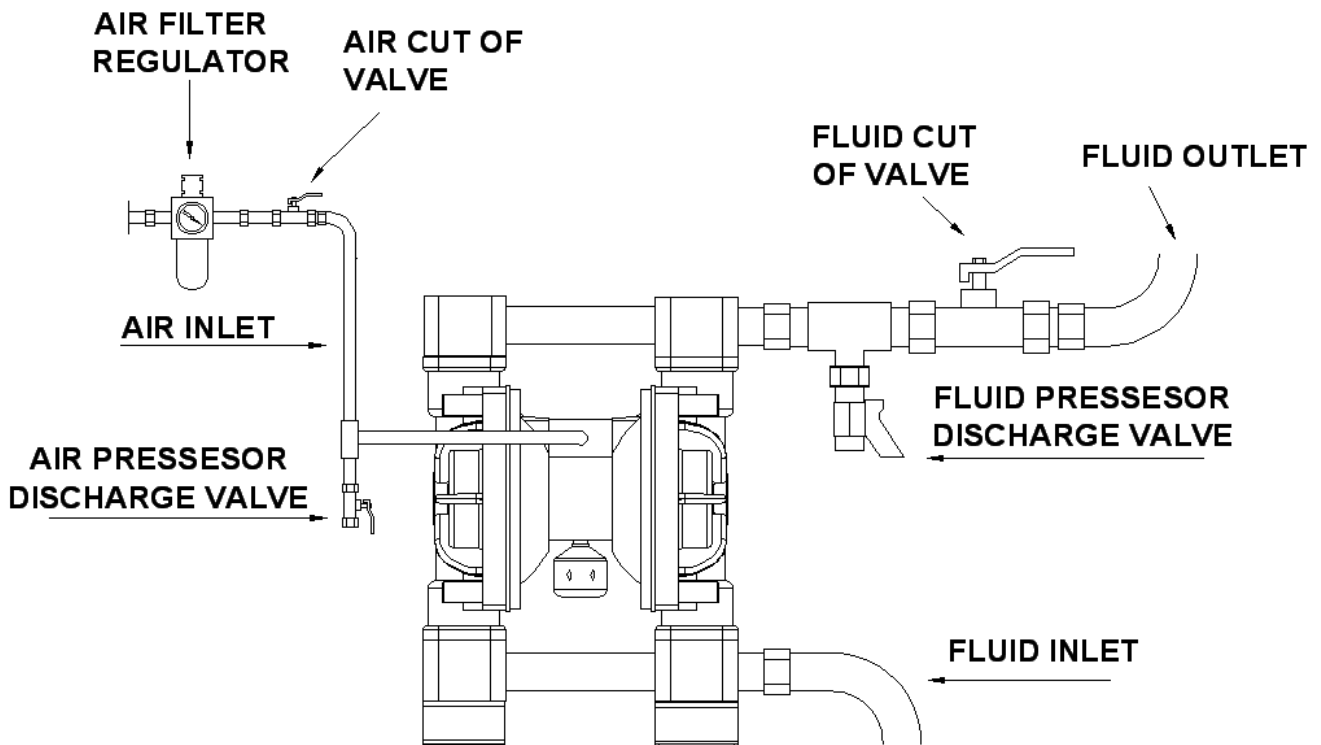

Figure 7- Typical installation scheme
A typical connection scheme of diaphragm pump is shown at Figure 7. Refer to your RAN™ Pump distributor for detailed information.
A bleed-type master air valve is required in your system to relieve air trapped between this valve and the pump. Trapped air can cause the pump to cycle unexpectedly, which could result in serious injury, including splashing in the eyes or on the skin, injury from moving parts, or contamination from hazardous fluids. See Fig. 7.
- 1-Refer to the Figure 7 for the connection scheme. Fix these accessories to the wall or to a bracket. The air line feeding the accessories must be grounded.